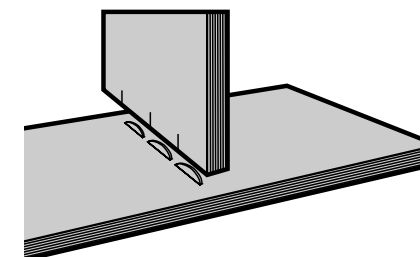

FIG 29
6. ASSEMBLAGE EN T (Figure 29)